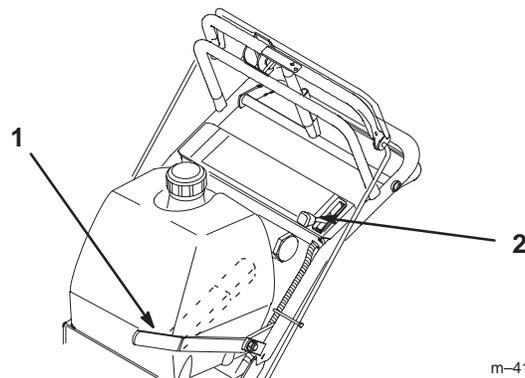

Figure 14
1. Move the throttle lever to “SLOW” (Fig. 14).
2. To stop the engine pull the throttle all the way back, past SLOW(Fig. 14).